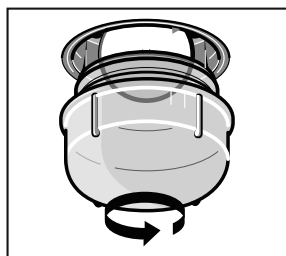

Figure 4
2. Unscrew the covering glass in anti-clockwise direction. (Figure 4)